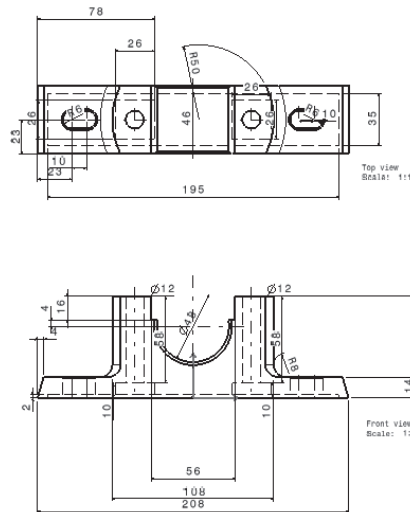

Figure 13-35 The drawing sheet, after generating dimensions
- Generate the dimensions, refer to Figure 13-35.
The progress bar is displayed and all the dimensions are generated in the front and top views, as shown in Figure 13-35.